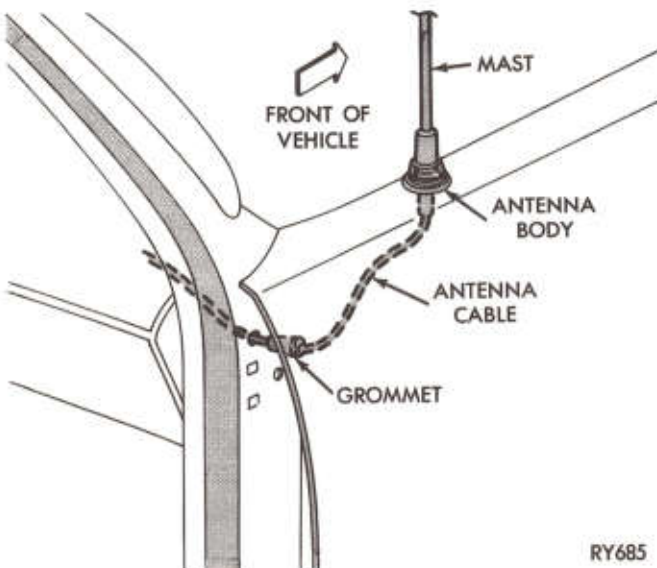

Fig. 8—Removing Grommet
- (5) Open right door and remove cable grommet from "A" post, (Fig. 8).